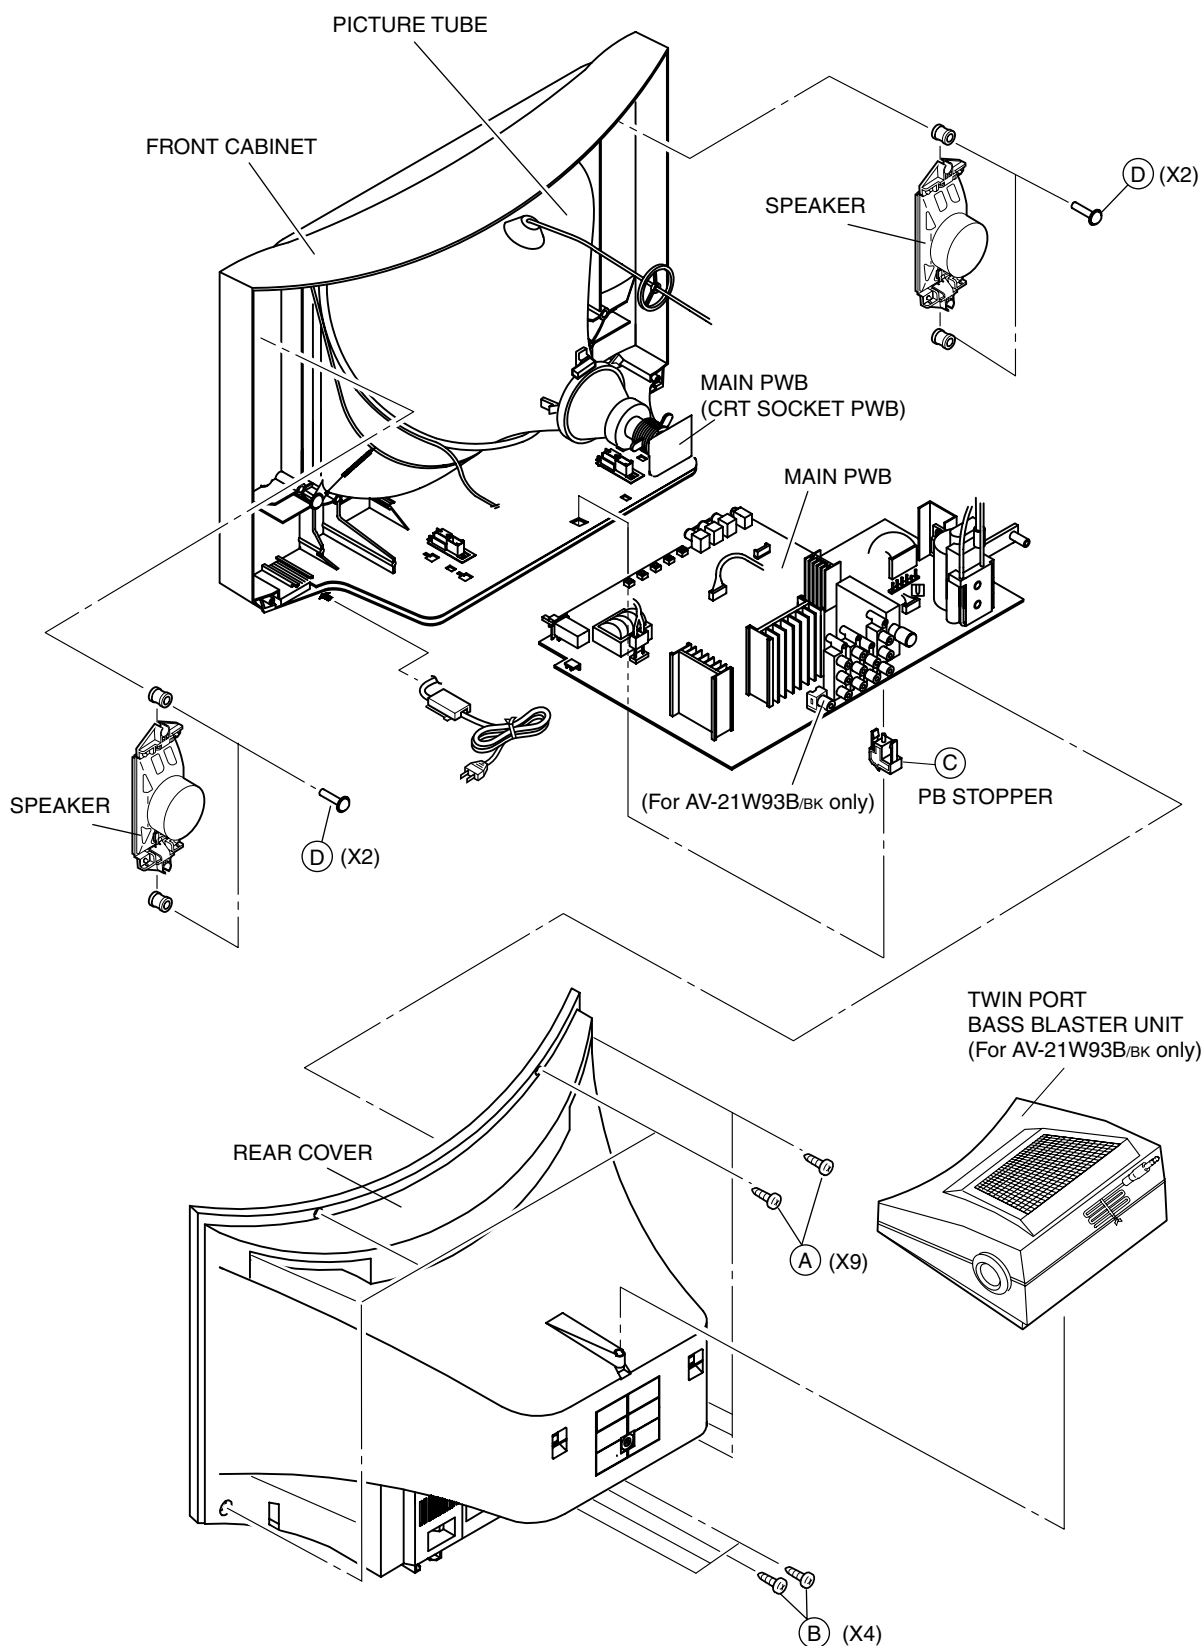

Fig.1
2. Remove the 9 screws marked (A) and 4 screws marked (B) as shown in Fig.1.
1. Remove the 2 screws marked (D) as shown in Fig.1.